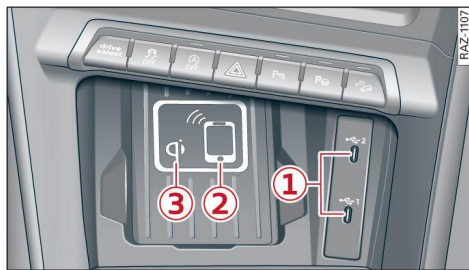

Fig. 131 Front centre console: Audi phone box with connections
- To make a phone call on your mobile phone via the vehicle's external aerial, place the mobile phone on the phone symbol  ⇒ page 175, Fig. 131 in the centre of the Audi phone box with the display facing upwards.
- To charge your mobile phone via USB, connect it to the USB input  ⇒ page 175, Fig. 131.
- To charge your mobile phone wirelessly, place it on the  symbol  ⇒ *page 175, Fig. 131* in the centre of the Audi phone box with the display facing upwards.